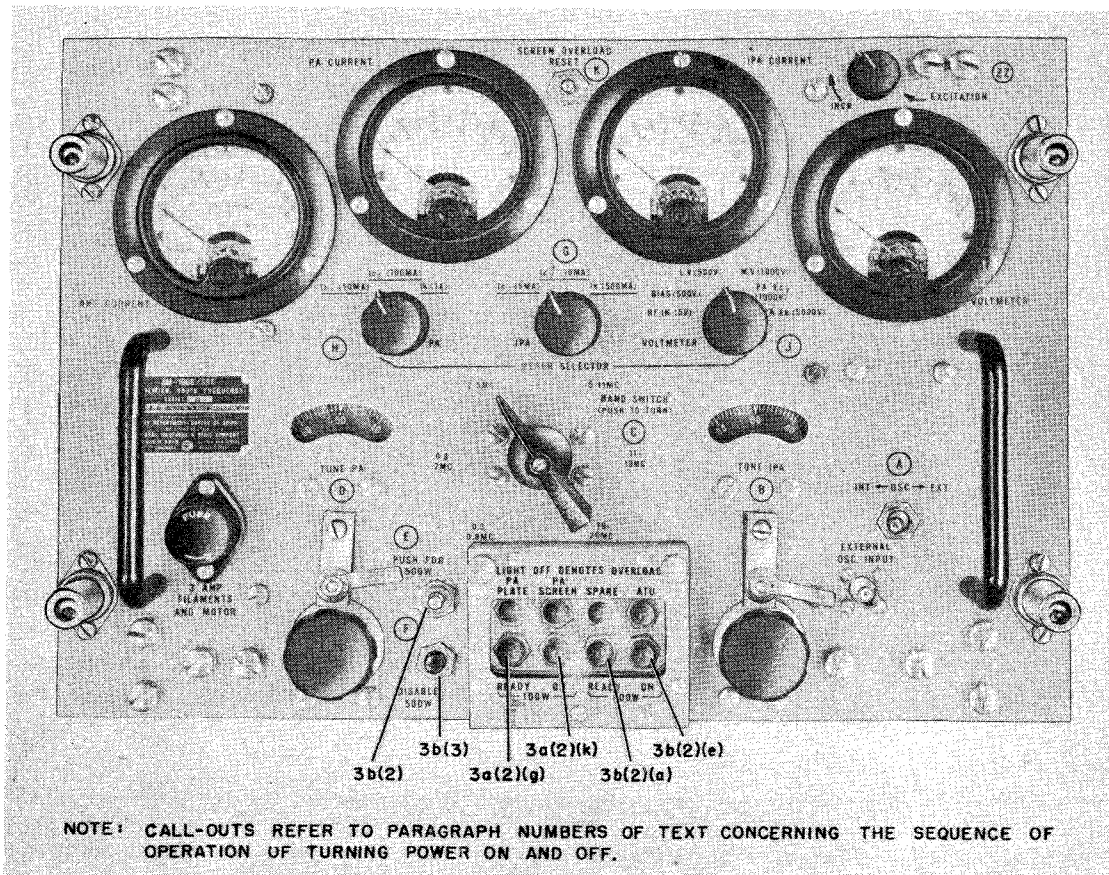

Figure 4-2. Radio Frequency Amplifier AM-1008/SRT (Radio Frequency Amplifier, RFA), Front Panel Controls and Indicators
Manual tuning of the transmitter group.	Radio Frequency Amplifier AM-1008/SRT (figure 4-2)
Connection of 500-watt circuits to a transmitter group.	Radio Frequency Amplifier AM-1008/SRT (figure 4-2)
a. RADIO FREQUENCY AMPLIFIER AM-1008/SRT.—The radio frequency amplifier (RFA) (figure 4-2) has controls for manually tuning Transmitter Group OA-684/SRT.
(1) OSCILLATOR INT-EXT SWITCH (A).—In normal operation, the INT-EXT switch (A) is placed in the INT position. This connects the output of the RFO to the input of the RFA. For purposes of corrective maintenance, alignment, etc., it might be desirable to connect an external source of r-f energy to the RFA. In this instance, switch (A) is placed in the EXT position and the output of the external source of r-f energy is connected through the EXT. OSC receptacle on the RFA front panel.
(2) BANDSWITCH (C), TUNE IPA (E), AND TUNE PA (D) TUNING CONTROLS.—The three tuning controls are reset with each change of transmitted frequency. The BANDSWITCH (C) is a rotary switch that is set to the band in which the transmitted frequency lies. The TUNE IPA control (E) is a continuous tuning control that is set according to the appropriate indication on the PA CURRENT meter with PA-METER SELECTOR switch (H) in the proper position. The TUNE PA control (D) is a similar continuous tuning control that also is set according to the indication on the PA CURRENT meter with PA-METER SELECTOR switch (H) in the proper position.
(3) PUSH FOR 500 W (E) AND DISABLE 500 W (F) SWITCHES.—In the AN/SRT-15 and AN/SRT-16, PUSH FOR 500 W (E) push-button switch, when depressed, places the transmitter group in 500-watt operation. With the transmitter in 500-watt operation, depressing the DISABLE 500 W (F) push-button switch returns the transmitter to the 100-watt level without having to take the transmitter off the air. In the AN/SRT-16, the booster is connected to only one
The sequence of operation, together with the indication given, for the turning of power on and off is given below. The front panel drawings, figures 4-2 through 4-10, inclusive, have call-outs that refer to the paragraph numbering that follows as an aid in the distinguishing of the sequence of control operation.